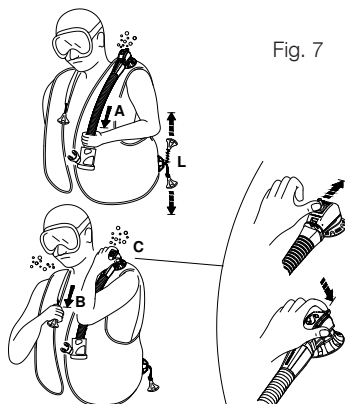

Fig. 7
- a. pulling gently on the hose assembly (fig. 7 - A).
- b. pushing on the button that protrudes out of the valve casing (fig. 7 - C) (Patented): this system could be useful also to purge air of another diver having problems (panic, beginner diver, unconsciousness, etc.).
- The SCUBAPRO® Dual Manual Dump Valve (Patent) has a safety hand button that releases air when pushed (fig 7-C), in case of failure of the Manual Dump System (broken cable, pin, etc.).
Lower Dump Valve (fig. 7 - L)
The deflation devices with the maximum outflow of gas are the shoulder valve fig. (7-B) and the lower valve (fig 7-L).